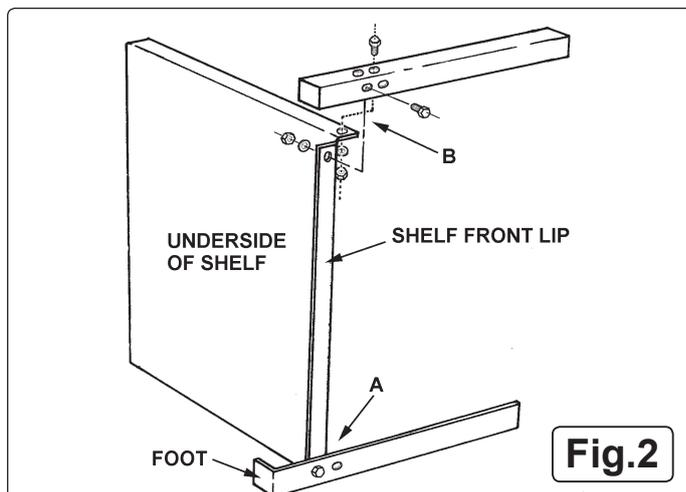

Fig.2
- 5.2. Lay one of the legs on the floor and place the shelf onto it as shown in fig.2.A. The shelf must be supported until both bolts are in place. The turned down lip at the front of the shelf should be nearest to the foot. Place a bolt into the hole nearest to the foot and hand tighten the nut down onto a washer. Continue to support the shelf. Turn it through 90 degrees so that you can bolt the same leg to the other side of the shelf. Only hand tighten at this stage.
- 5.3. Now attach a second leg to the shelf using two sets of fixings as shown fig. 2.B.